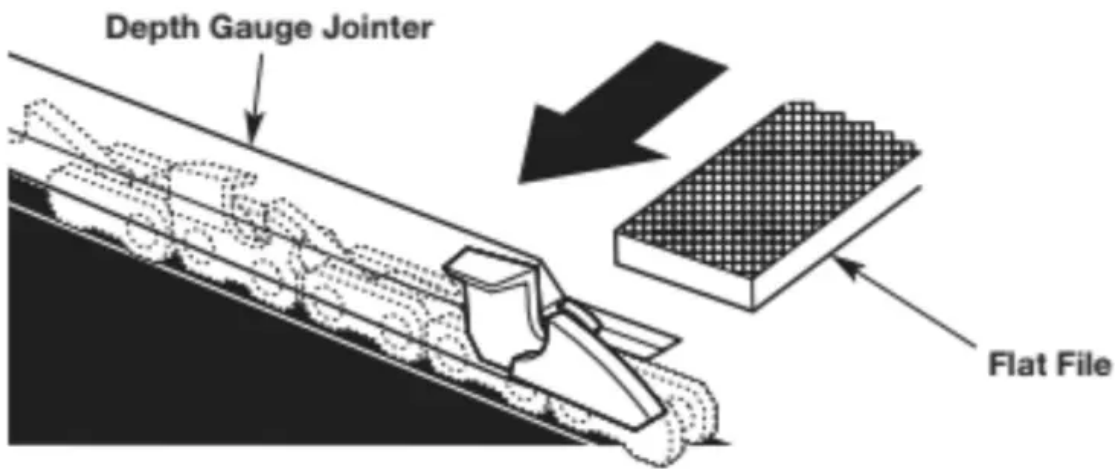

Fig. 36
3. Use a depth gauge tool (not included) to measure the depth gauge clearance (Fig. 36) of each cutter. The depth gauge clearance must be maintained at 1/32 inch (0.6 mm). The depth gauge clearance determines the depth at which the cutter enters the wood during operation and the size of the wood chips produced. Too much clearance increases the chance of kickback. Too little clearance decreases the size of the woodchips, thus decreasing the ability to cut.
- Use a 1/32 inch (0.6 mm) depth gauge jointer and a flat file (tools not included) to lower the depth gauge to the correct clearance (Fig. 36).